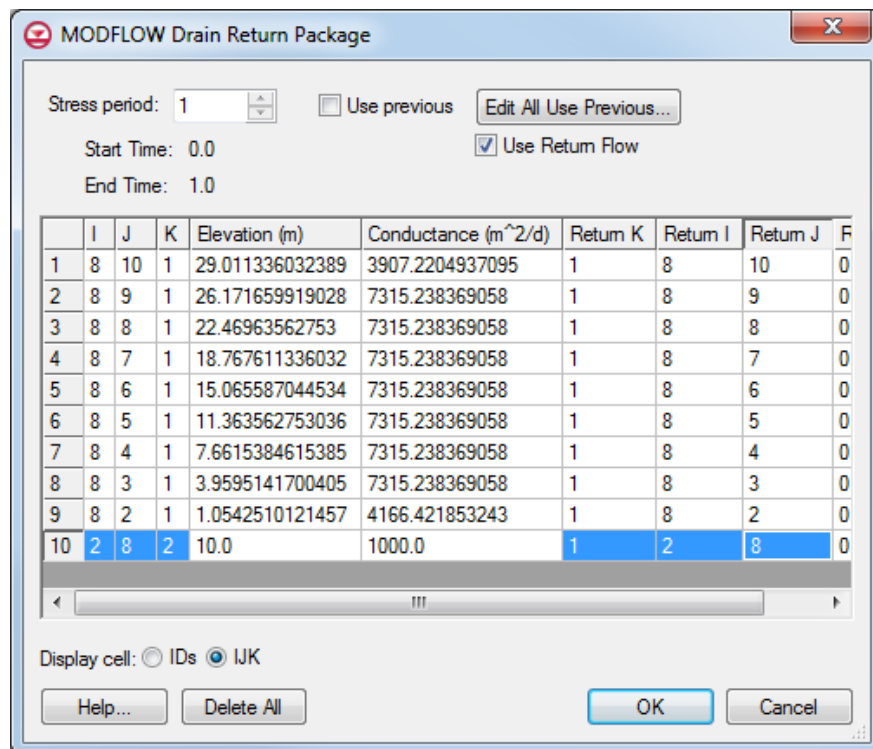

Figure 11 DRT boundary condition and return coordinates
5. At the bottom of the dialog, select *IJK* from the two *Display cell* options. Notice that the last DRT boundary condition is located at *IJK* “2,8,2” (Figure 11, highlighted at bottom left) and the return *KIJ* is 1,2,8 (Figure 11, highlighted at bottom right).